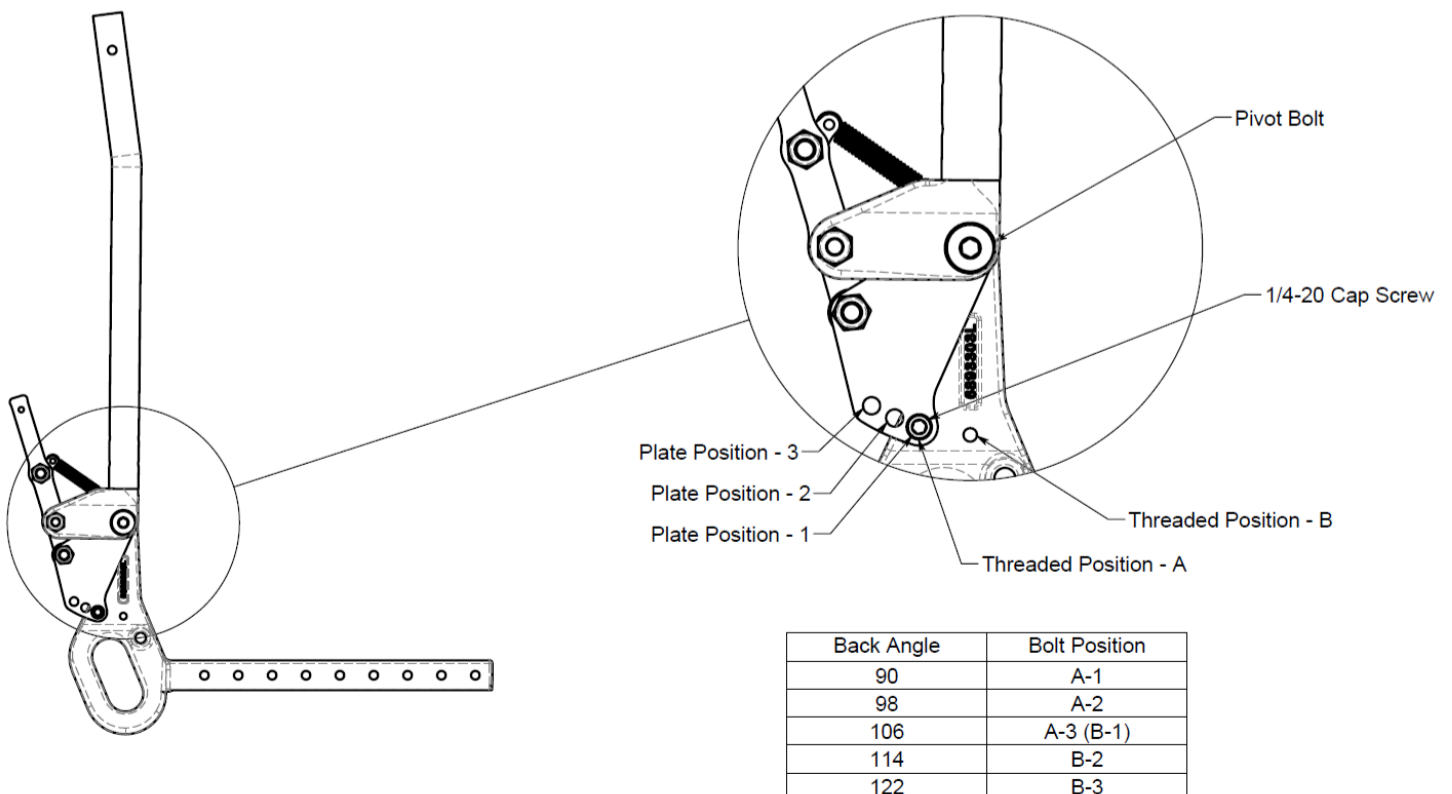

Figure 14.24: Backrest Angle Adjustment
2. Adjust the bracket to the desired angle and re-install the ¼-20 cap screw. Refer to Figure 14.24 for the cap screw position for different back angles.